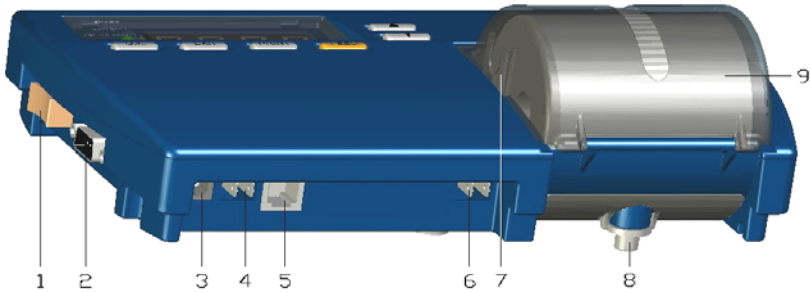

Figure 1: Vision Temperature Recorder - Front/Top View
Figure 1 shows the front and top of the VTR.
3. Open the paper cover by pushing the two cover clips (item 7 in Figure 1) to the inside and pulling the cover out.